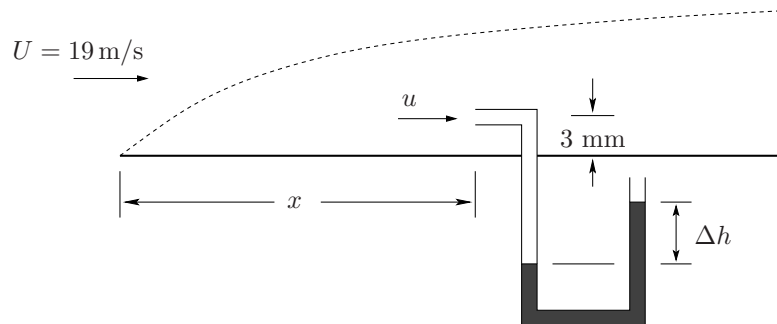

Figure 2: Flow past a flat plate.
- (d) (19 pts) Air at 60°C and 1 atm ( $\rho_{air} = 1.06 \text{ kg/m}^3$ ,  $\nu_{air} = 1.86 \times 10^{-5} \text{ m}^2/\text{s}$ ) flows at 19 m/s past the flat plate as shown in Figure 2. A Pitot tube, placed 3 mm from the wall, develops a manometer height  $\Delta h = 10 \text{ mm}$  of Glycerine,  $\rho_G = 1260 \text{ kg/m}^3$ .